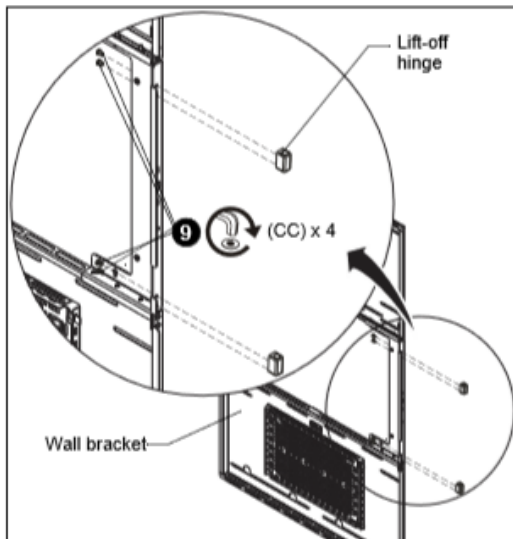

Figure 14
8. Move the lift-off hinges to the right side of the wall bracket. (See Figure 14)
9. Fasten in place with four (two each hinge) **NEW** 10-32 x 5/16" button head cap screws (CC). (See Figure 14)